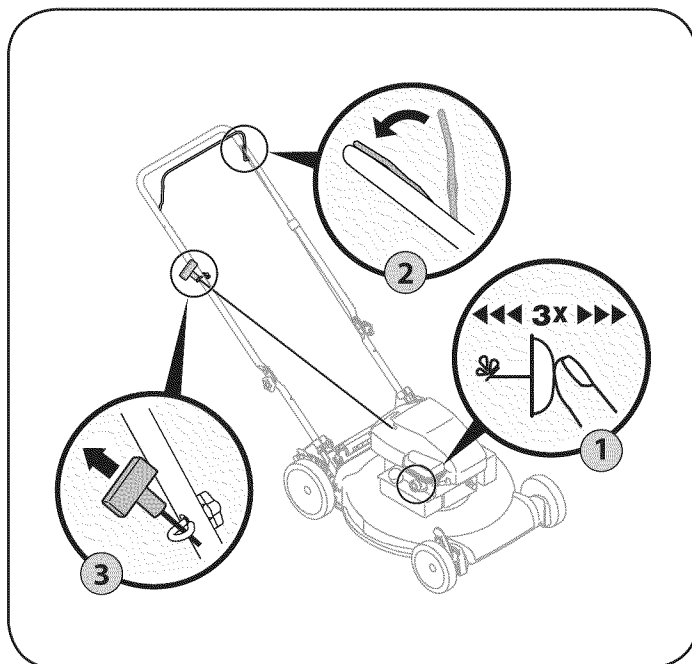

Figure 12
1. When starting the engine for the first time, push primer five times. For all future starts, push the primer three times. Wait about two seconds between each push. See Figure 12. Do not prime to restart a warm engine.
3. Holding these two handles together firmly, grasp recoil starter handle and pull rope slowly until resistance is felt, then pull with a rapid, continuous, full arm stroke. See Figure 12. Keeping a firm grip on the starter cord handle, let the rope rewind slowly. Repeat until engine cranks. Let the rope rewind each time slowly.